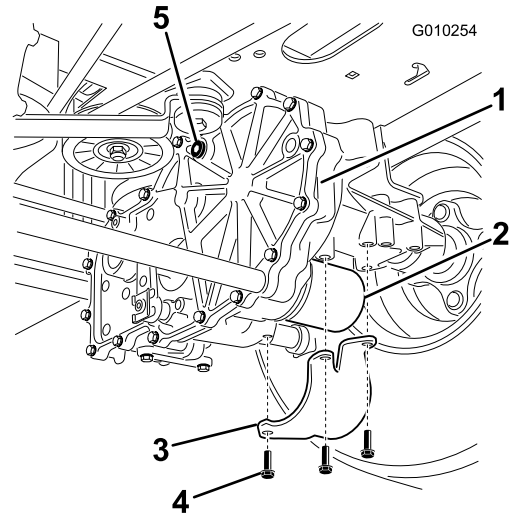

Figure 58
2. Locate the filter and guards on each transaxle drive system (Figure 58). Remove three screws securing the filter guard and guard.